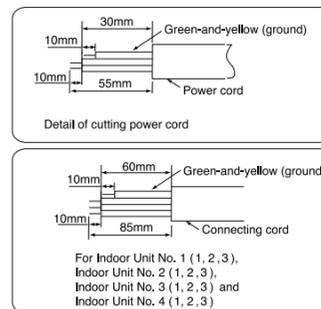

Fig. 3-2
- Cut off the connecting cord, the power cord and strip the insulation of the wire, as shown in Fig. 3-2.